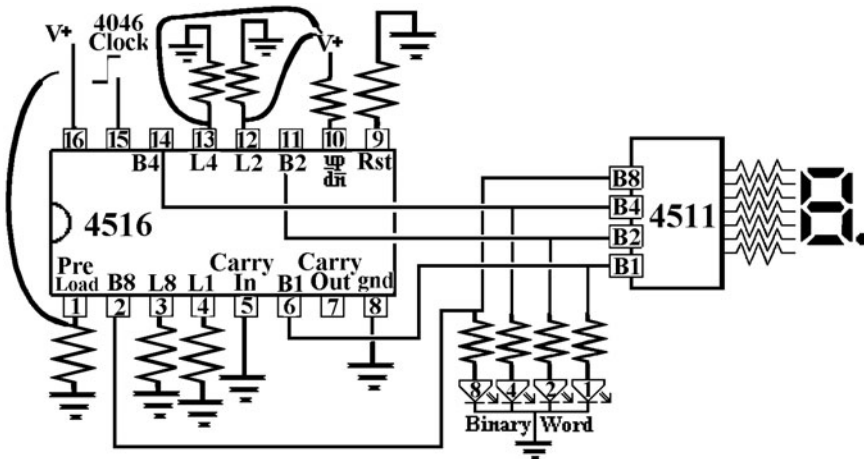

Figure L45-6
- **The preload.** This is easy to do. Don't remove the resistors. They allow flexibility. Pop a short wire into both L2 and L4 as shown in Figure L45-6, and connect them to V+. Connect a long wire to preload. Touch the preload wire to V+, just for a moment. Your display should now show the number "6." When the preload is set to high, the values preset on the load inputs are dumped onto their matching binary count outputs.